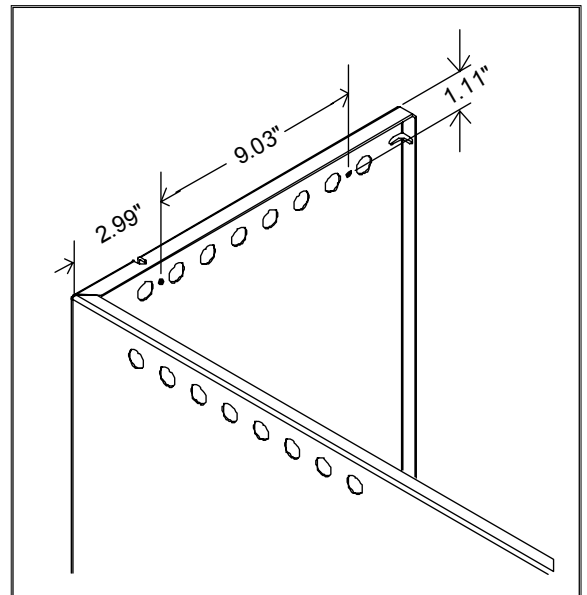

Fig. 1 Hole Locations
4. Using a precision rule, mark the locations of the fan mounting holes with a center punch (punch marks may already be present). Using a #9 (3/16") drill bit, drill out the marked holes. Remove any burrs with a file or utility knife (See Fig. 1).